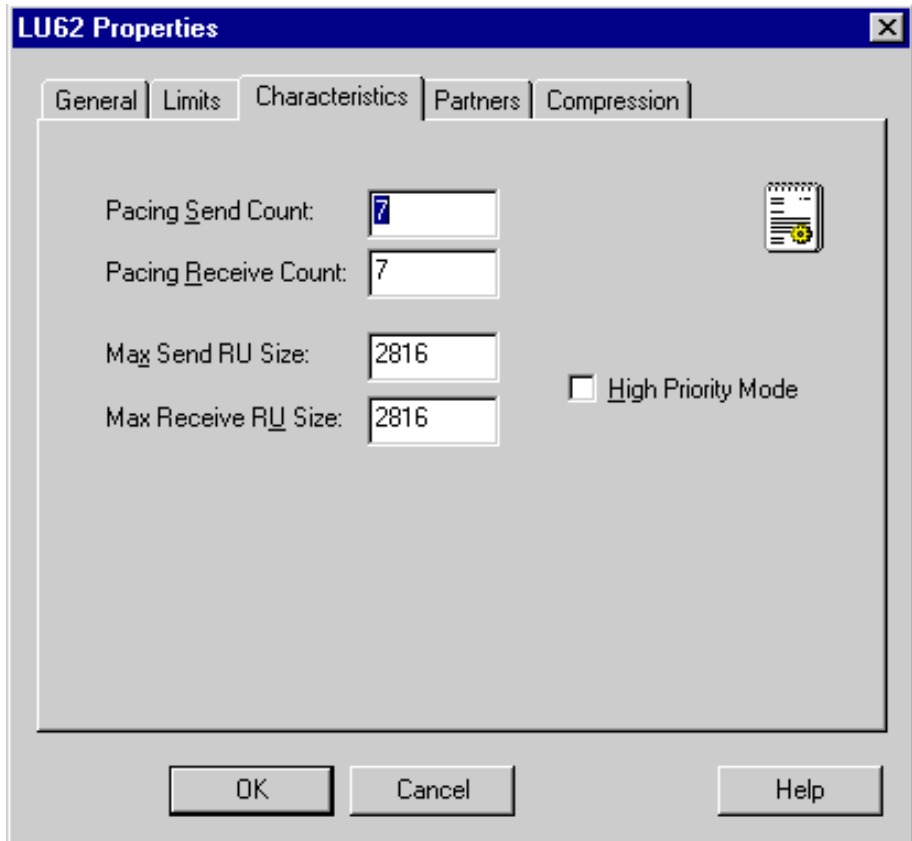

Figure 50. Configuring APPC modes: characteristics page
- 7 Keep the default value for the following fields, as shown in Figure 50: